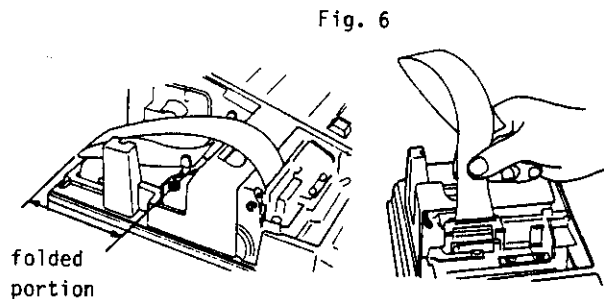

Fig. 6
7. When all the folded portion comes out, tear off the unnecessary part with the attached cutting edge. (Fig. 6)